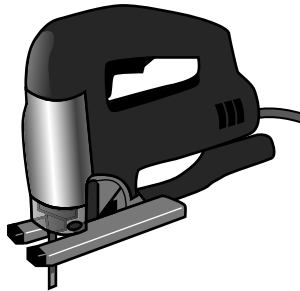

Fig. 1
- 2 Fig. 1 shows a jigsaw. The jigsaw has a blade that can be replaced.